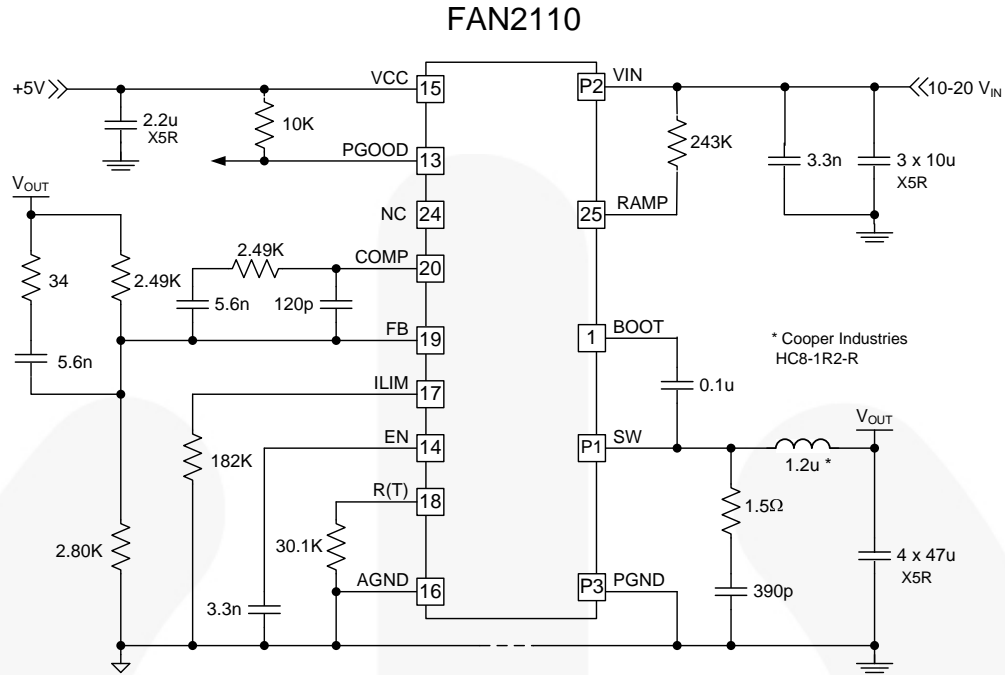

Figure 10. Application Circuit: 1.5 VOUT, 10 A, 500 KHz (10 V-20 VIN)
Typical operating characteristics using the circuit in Figure 10.  $V_{IN}=12\text{ V}$ ,  $V_{CC}=5\text{ V}$ ,  $T_A=25^\circ\text{C}$ , unless otherwise specified.
4. Circuit values for this configuration change in Figure 10.
Typical operating characteristics using the circuit in Figure 10.  $V_{IN}=12\text{ V}$ ,  $V_{CC}=5\text{ V}$ ,  $T_A=25^\circ\text{C}$  unless otherwise specified.
5. Circuit values for this configuration change in Figure 10.